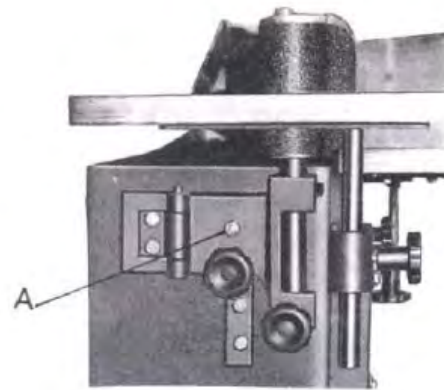

Fig.6.
Adjustment of the abrasive belt will cause spring fatigue when used for a long period. If this happens, you don't need to change the spring, just rotate the tension adjustment screw (A) Fig. 6, clockwise until you achieve the proper